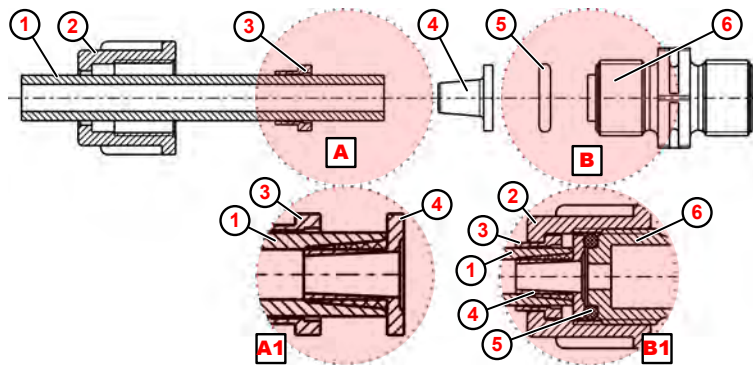

Fig. 18: Pipe-to-hose connection with tapered part
1. ➤ Cut off the hose with a straight cut (Fig. 18 , ①).
2. ➤ Slide the union nut ② over the hose ① .
3. ➤ Slide the clamp ③ over the hose ① .
4. ➤ Slide the hose ① onto the tapered part ④ up to the stop collar (for details, Ⓐ1).
5. ➤ Slide the tensioning piece ③ towards the tapered part ④ until you feel resistance.
6. ➤ Place the o-ring ⑤ in the groove of the suction or pressure valve ⑥ .
7. ➤ Tighten the union nut ② (for details, see Ⓑ1).